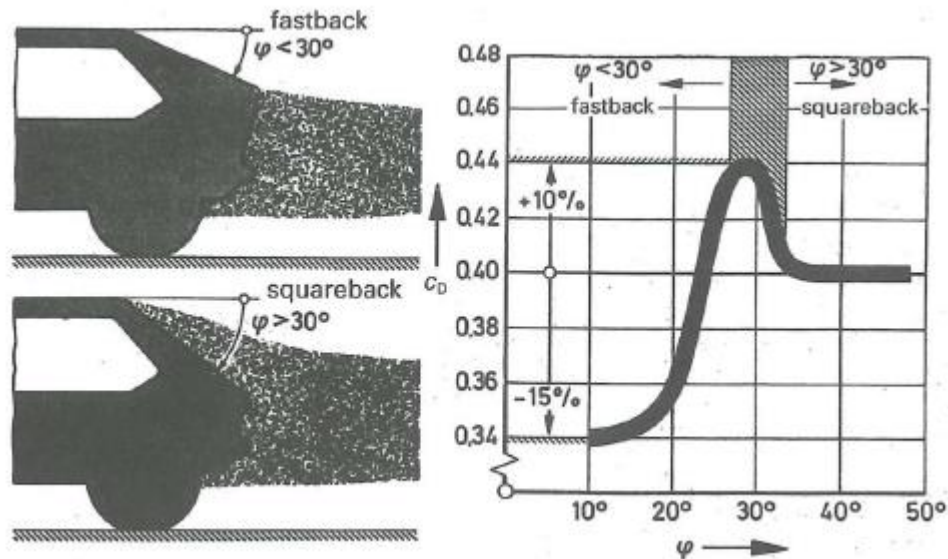

Fig.9: Effect of slant angle and flow pattern on a car back[Hucho, 1998]
3. Influence of the slant angle in car back (Fig.9)